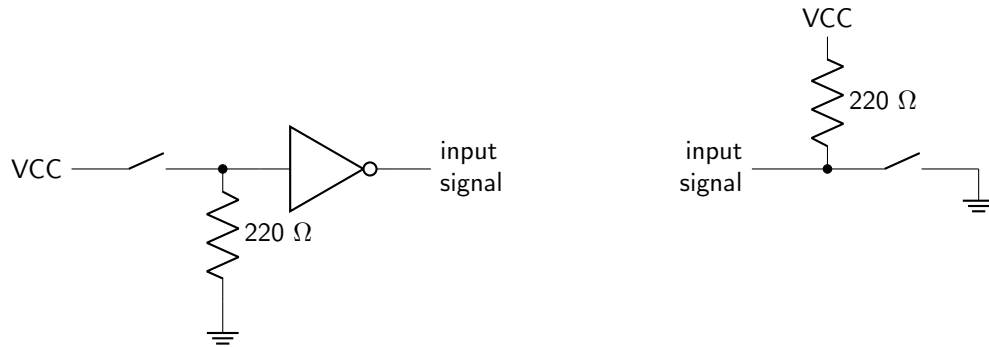
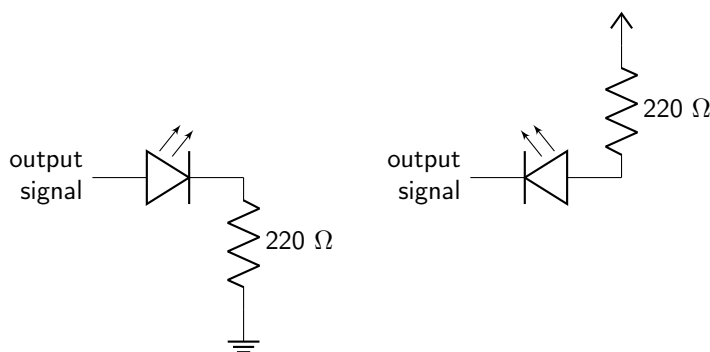

Figure 3.2: Schematic of an active-HIGH DIP switch input connected through an inverter (left). Schematic of an active-LOW DIP switch input (right).
Figure 3.3: Schematic of an LED wired for an active-HIGH output signal (left). Schematic of an LED wired for an active-LOW output signal (right).
For active-HIGH inputs connected to an input device such as a DIP switch or a pushbutton, an active-HIGH configuration using a pull-down resistor, as you have done so far in Labs 1 and 2, is ideal. To connect an active-LOW input, there are two possibilities. The first is using an active-HIGH DIP switch or pushbutton input that has been inverted using a NOT gate (see Figure 3.2, left). The second option is to use an active-LOW input signal by using a pull-up resistor instead of a pull-down resistor (see Figure 3.2, right).
Once you feel familiar with the “normal” AND gate, change your DIP switch so that both inputs have an active-LOW input configuration using pull-up resistors, as shown in Figure 3.2 right. Fill out the corresponding truth table. Demonstrate its functionality to your instructor to receive a stamp.
Other times, an active-LOW output signal needs to be modified to interact with another active-HIGH device. In this case, an inverter can be used to convert an active-LOW signal into an active-HIGH signal. When utilizing an output device such as an LED with an active-LOW output device, it is not always necessary to invert the output (which requires an extra logic gate). Instead, an LED can be connected in an active-LOW configuration. In this case, rather than wiring up an LED in an active-HIGH configuration (as you've done in previous labs, and as shown in Figure 3.3, left) wire it instead in an active-LOW configuration (as shown in Figure 3.3, right).
Circuit 5: Wire up an AND gate with active-HIGH inputs (pull-downs on the DIP switch) and an LED wired in an active-LOW configuration, as shown in Figure 3.3 right. Fill out the corresponding truth table. Demonstrate its functionality to your instructor to receive a stamp.
3. Consider the 7404 chip wired up with both an active-LOW DIP switch (as shown in Figure 3.2 right) **and** an active-LOW LED (as shown in Figure 3.3 right). Fill out the following truth table for that configuration. (Feel free to test this out in TinkerCad if you're unsure of your answer.)
4. Consider the 7408 chip wired up with both an active-LOW DIP switch (as shown in Figure 3.2 right) **and** an active-LOW LED (as shown in Figure 3.3 right). Fill out the following truth table for that configuration. (Feel free to test this out in TinkerCad if you're unsure of your answer.)
5. Consider the 7432 chip wired up with both an active-LOW DIP switch (as shown in Figure 3.2 right) **and** an active-LOW LED (as shown in Figure 3.3 right). Fill out the following truth table for that configuration. (Feel free to test this out in TinkerCad if you're unsure of your answer.)